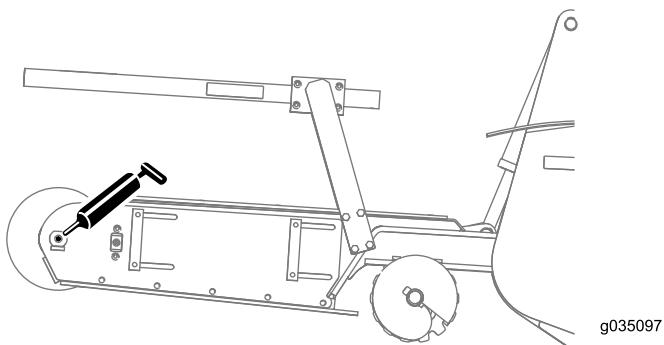
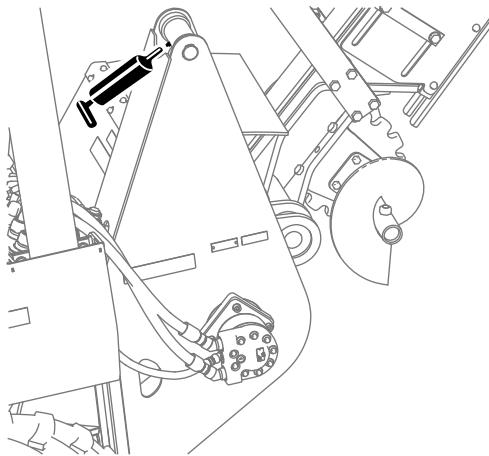
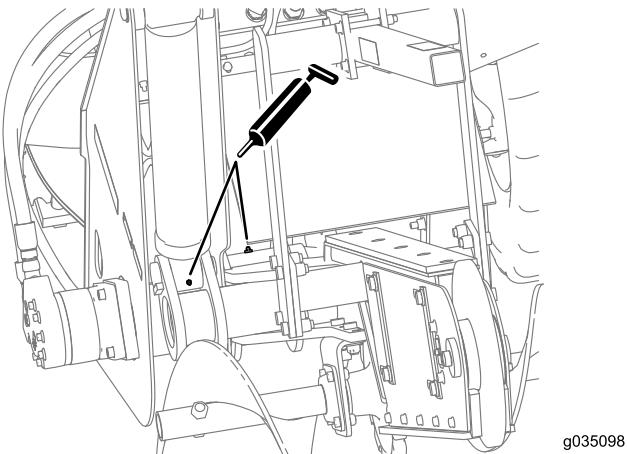

Figure 28
Figure 30
Figure 29
2. Connect the grease gun to the grease fitting for the bearing of the lower lift cylinder, and apply 3 pumps of grease to the fittings (Figure 28, Figure 29, and Figure 30).